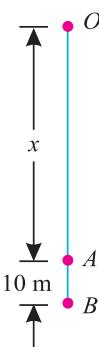

Fig. 17.2.
**Solution.** Let the body start from  $O$  and pass two points  $A$  and  $B$  10 metres apart in 0.2 s as shown in Fig. 17.2.